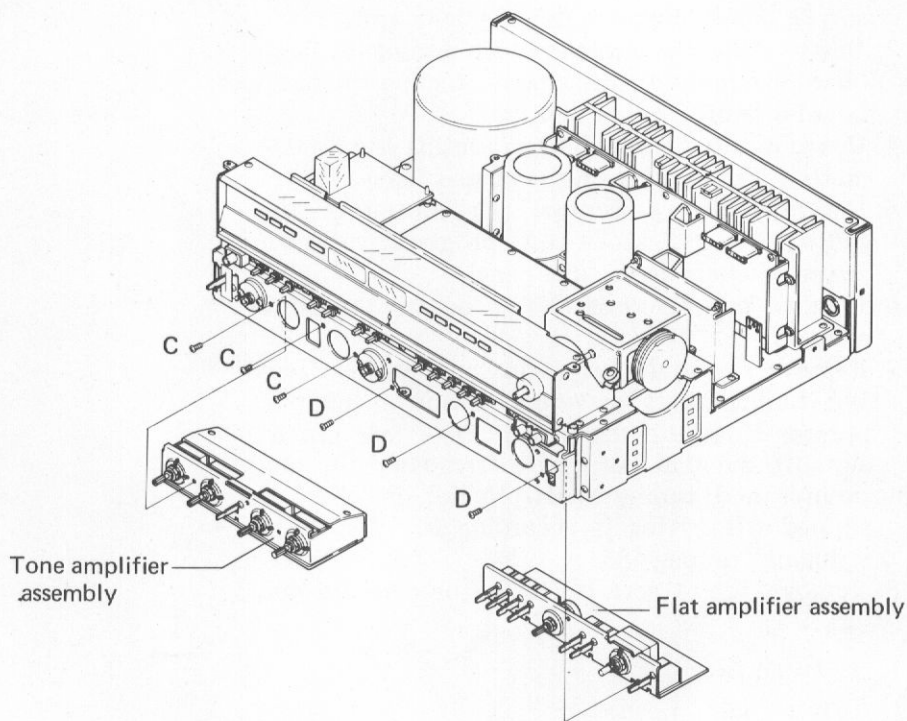

Fig. 23
**Tone Amplifier Assembly (Fig. 23)**
**Flat Amplifier Assembly (Fig. 23)**